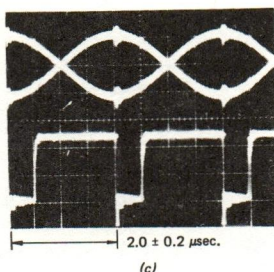

Fig. 5-7
- g. Check if the peak-to-peak value of the output waveform for "2F" is  $0.6 \pm 0.2$  V (**32W**  $0.35 \pm 0.15$  V). (Refer to Fig. 5-7 (a))
- 32W** j. Check if the peak-to-peak value of the output waveform for "2F" is  $0.35 \pm 0.15$  V (Refer to Fig. 5-7 (a))
m. Select "Uncl" on the timing axis of the oscilloscope and then such a waveform as shown in Fig. 5-7 (b) can be obtained.
n. Check if no jittery pulse follows the triggered one. (Refer to Fig. 5-7 (b))
o. Check if the pulses are issued from side 0 or 1 every  $2.0 \pm 0.2 \mu\text{sec}$ . (Refer to Fig. 5-7 (c))